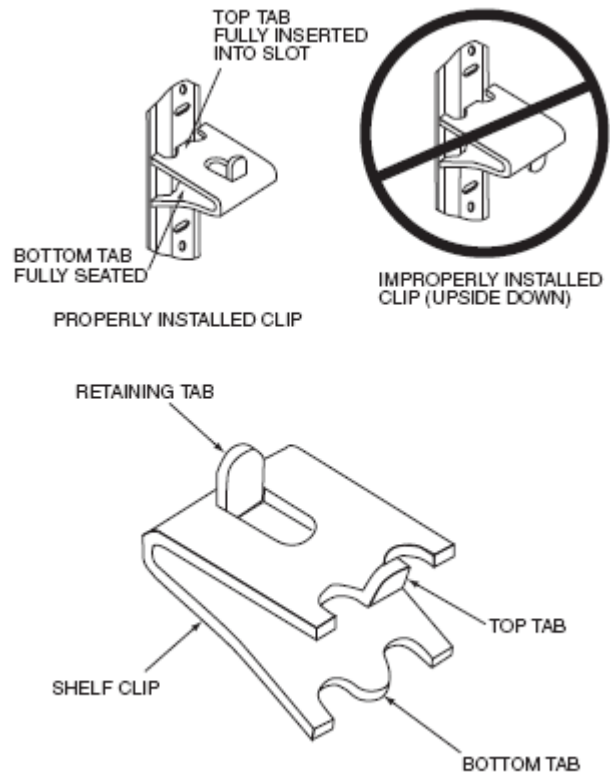

FIGURE 4 – SHELF CLIP INSTALLATION
2. Insert top tab of the shelf clip into the desired hole of the pilaster. The retaining tab should be facing upward as shown in Figure 4.
7. Before loading the shelf, ensure that the shelf is resting on each of 4 clips and that the clip are installed as shown in Figures 4 and 5.